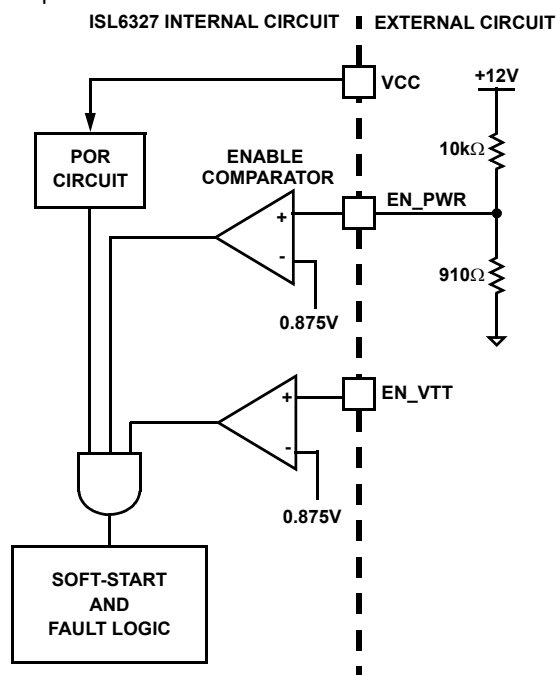

FIGURE 7. POWER SEQUENCING USING THRESHOLD-SENSITIVE ENABLE (EN) FUNCTION
2. The ISL6327 features an enable input (EN_PWR) for power sequencing between the controller bias voltage and another voltage rail. The enable comparator holds the ISL6327 in shutdown until the voltage at EN_PWR rises above 0.875V. The enable comparator has about 130mV of hysteresis to prevent bounce. It is important that the driver ICs reach their POR level before the ISL6327 becomes enabled. The schematic in Figure 7 demonstrates sequencing the ISL6327 with the ISL66xx family of Intersil MOSFET drivers, which require 12V bias.